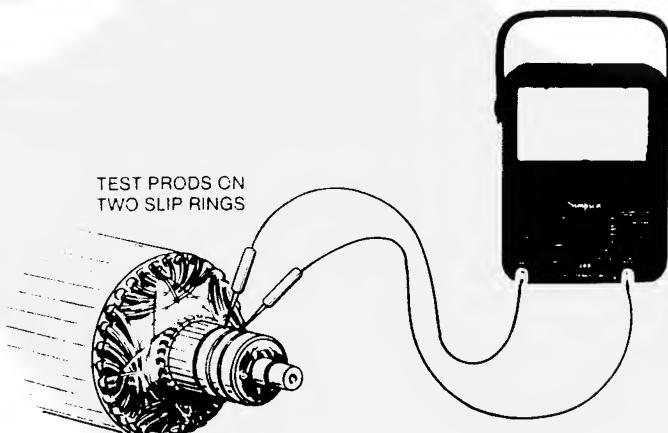

FIGURE 8-5. ARMATURE AC OPEN TEST
- Measure the resistance between the slip rings. If there are three slip rings, measure the resistance between the middle one and the one to each side of it, and between the two on each side (Figure 8-5).